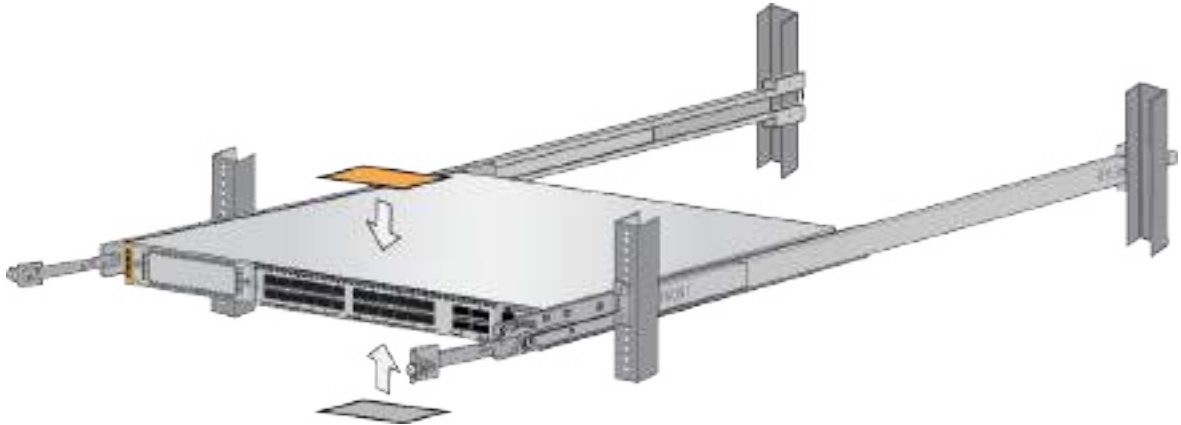

Figure 99. Affixing the Warning Labels
2. Affix the provided warning labels to the top and bottom of the switch, in locations immediately visible when removing the device from the rack. Refer to Figure 99 on page 153.